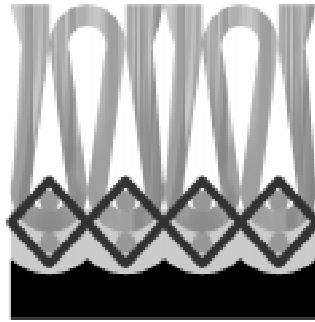

Fig. 13 Woven; cut and loop carpet
In the **woven** carpet manufacturing process, the yarns for the backing are woven simultaneously with those of the face (Fig. 13). The primary components of a woven carpet are the weft yarns, backing yarns which run the width of the carpet; the warp yarns, backing yarns which run lengthwise through the carpet; and the pile yarns which form the face of the carpet. The three principal machine-woven techniques are: velvet, Wilton and Axminster. **Knit** carpet is a type of woven carpet in which the pile yarns are interwoven among themselves, resulting in a three dimensional weave.
**Tip shear** and **cut and loop pile** are combination face construction carpets which provide some of the benefits of each of the previous types of face construction (Fig. 13). Tip shear is produced as a multi-level loop carpet and then sheared to a single height. Cut and loop is cut during the weaving or tufting process. These carpets provide a softer look than all-loop pile, but are more durable than cut. They do not hide seams and cuts as well as all cut pile, but do better than all loop.